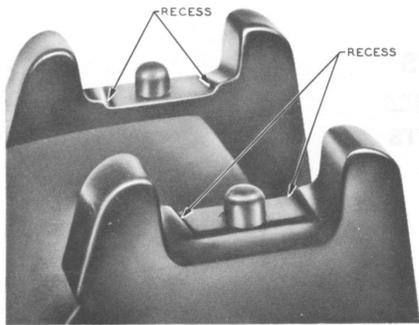

Fig. 4—Cradle Recess
4.01 The handset cradle of the housing for the 5300- and 5400-series telephone sets will accommodate both the G- and F-type handsets. The handset cradle has a recess to provide a seat for the F-type handset. (See Fig. 4.) The housing is fastened to the webbing of the base by means of the cord anchors' screw.